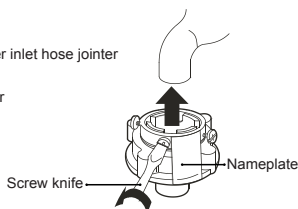
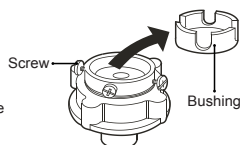

Figure 2
Figure 3
3. Loosen the screw till the water faucet can be accessed. Put the jointer of the water inlet hose on the faucet. See to Figure 2. (If the faucet is too large and the jointer can not be set on the water faucet, please loosen the four screws and take out the bushing in the jointer. The front end of the faucet must be smooth, otherwise it may leak water. See to Figure 3.)